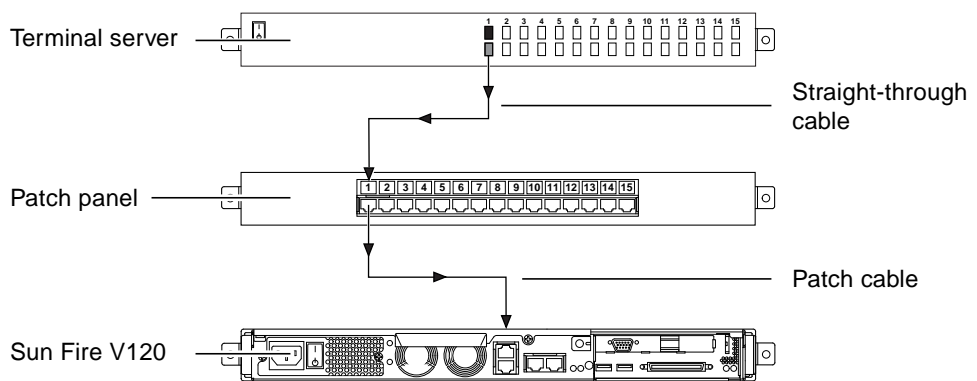

FIGURE 6-3 Patch Panel Connection Between a Terminal Server and a Sun Fire V120
- Connect a roll-over cable to a patch panel and use a straight-through patch cable to connect the patch panel to the Sun Fire V120 or Netra 120 server (see FIGURE 6-3).